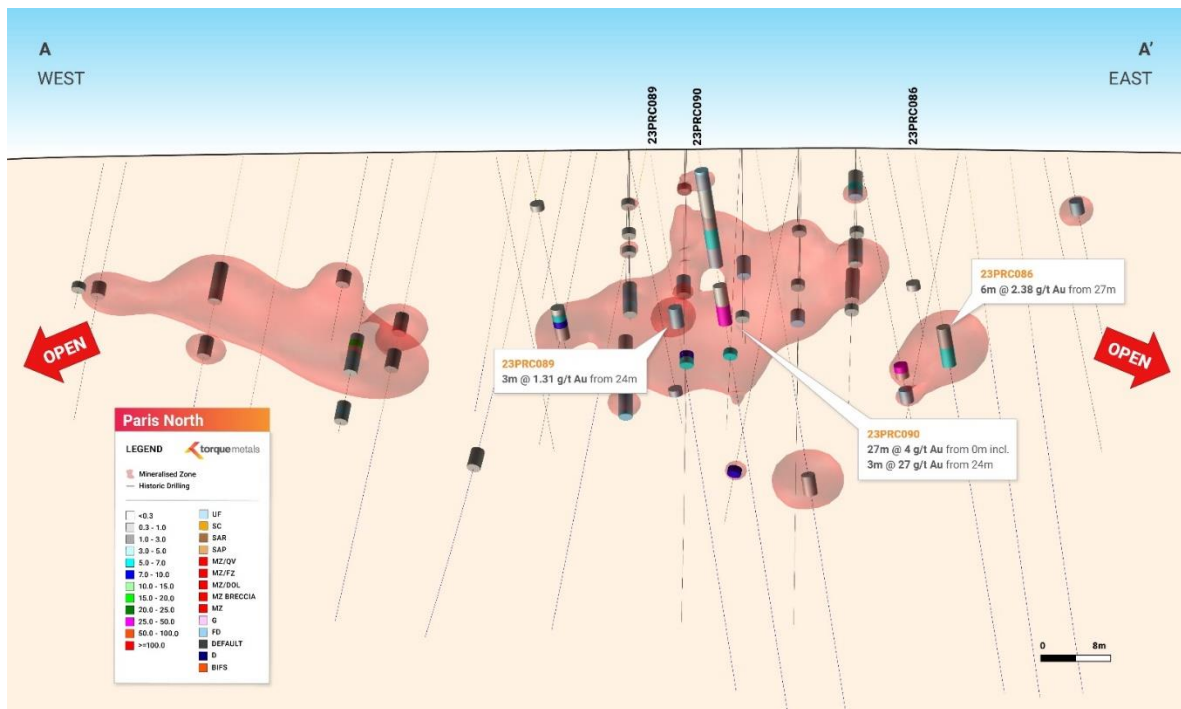

Figure 2 Paris prospect, Paris north lode, W-E section of the mineralised structure
- 100m north of Paris historic open pit, Torque confirmed a from-surface mineralised zone (Figures 2, 3), best result of: